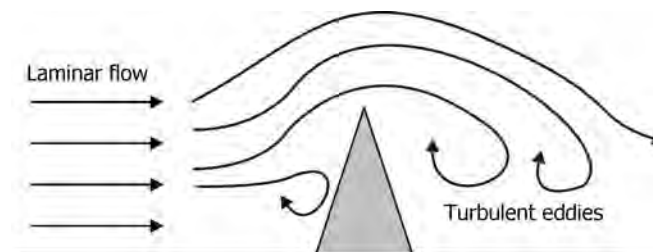

FIGURE 2.1 Changeover of laminar flow into turbulent eddies.
- Figure 2.1 illustrates change over from laminar to turbulent flow when an obstruction comes in its path.